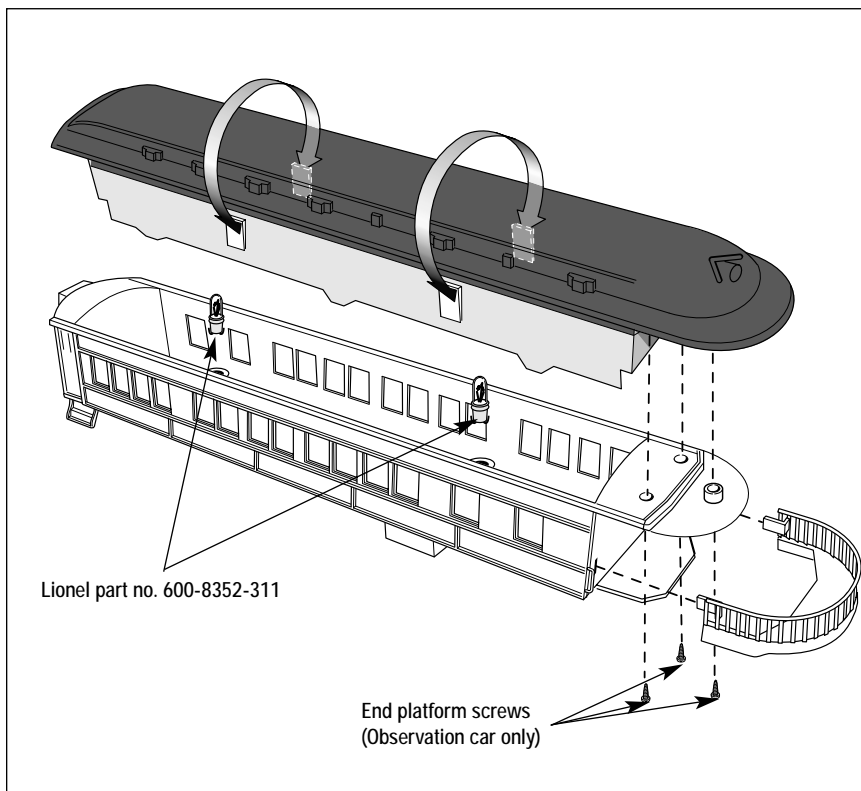

Figure 14. Passenger car lamp replacement
1. As illustrated in Figure 14, press in the four window insert tabs.
4. Replace the roof and window insert. Replace the three screws in the roof above the observation car platform. Refer to Figure 14.